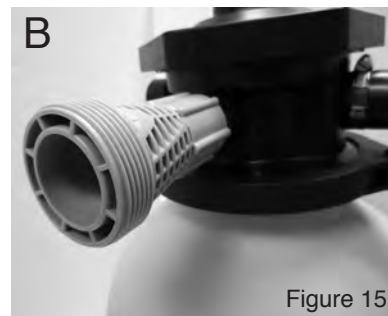

Figure 15
- 2) Install the Long Treaded Fitting (B) on the RETURN port of the valve as shown in Figure 15.
- 3) Secure the connection from the suction hose from the pool to the Short Threaded Fitting (A).
- 4) Secure the connection from the return hose of the pool to the Long Threaded Fitting (B).